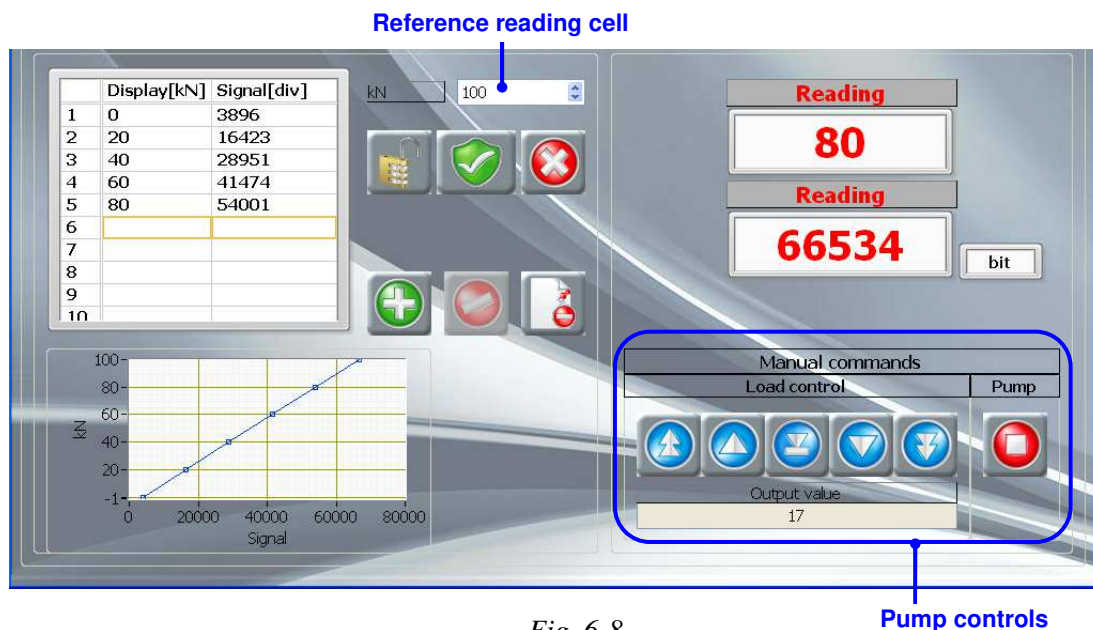

Fig. 6-8
15. In the **Reference reading cell**, enter the reading of the reference transducer, in kilonewtons. See Fig. 6-8.